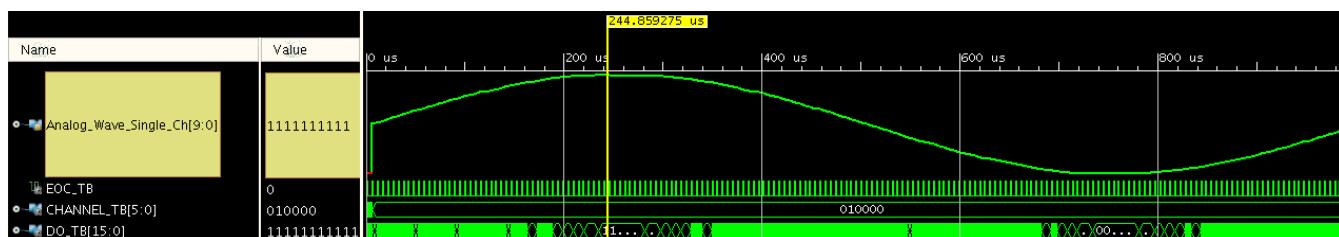
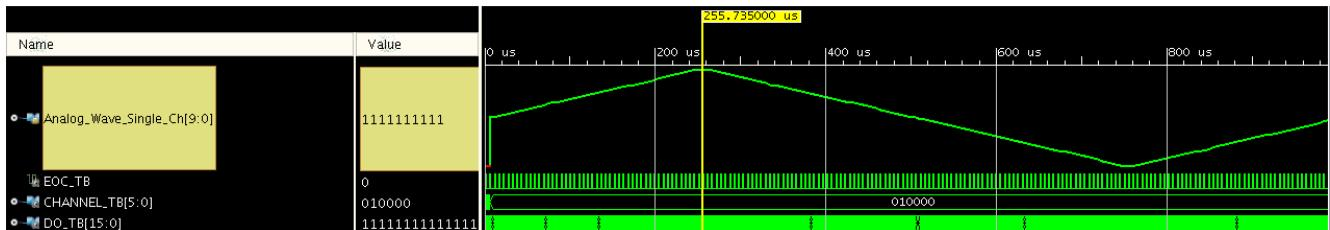
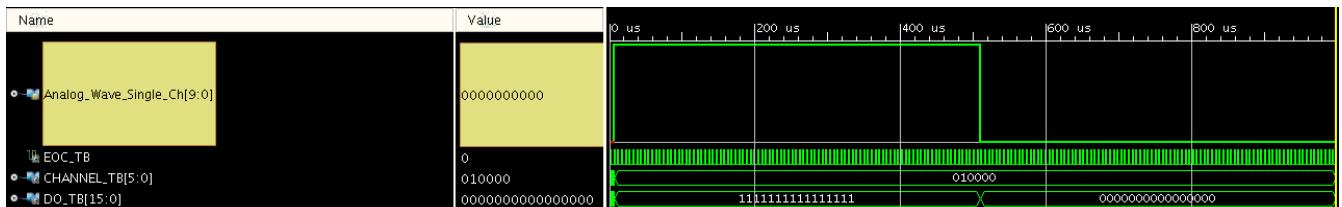

Figure 4-7: **Sine Wave**
Figure 4-8: Triangle Wave
Figure 4-9: Square Wave
- **Waveform Type:** Choose CONSTANT, SINE, TRIANGLE, or SQUARE wave as stimulus on external channel analog inputs. See Figure 4-7, Figure 4-8, and Figure 4-9 for examples of the waveform types.